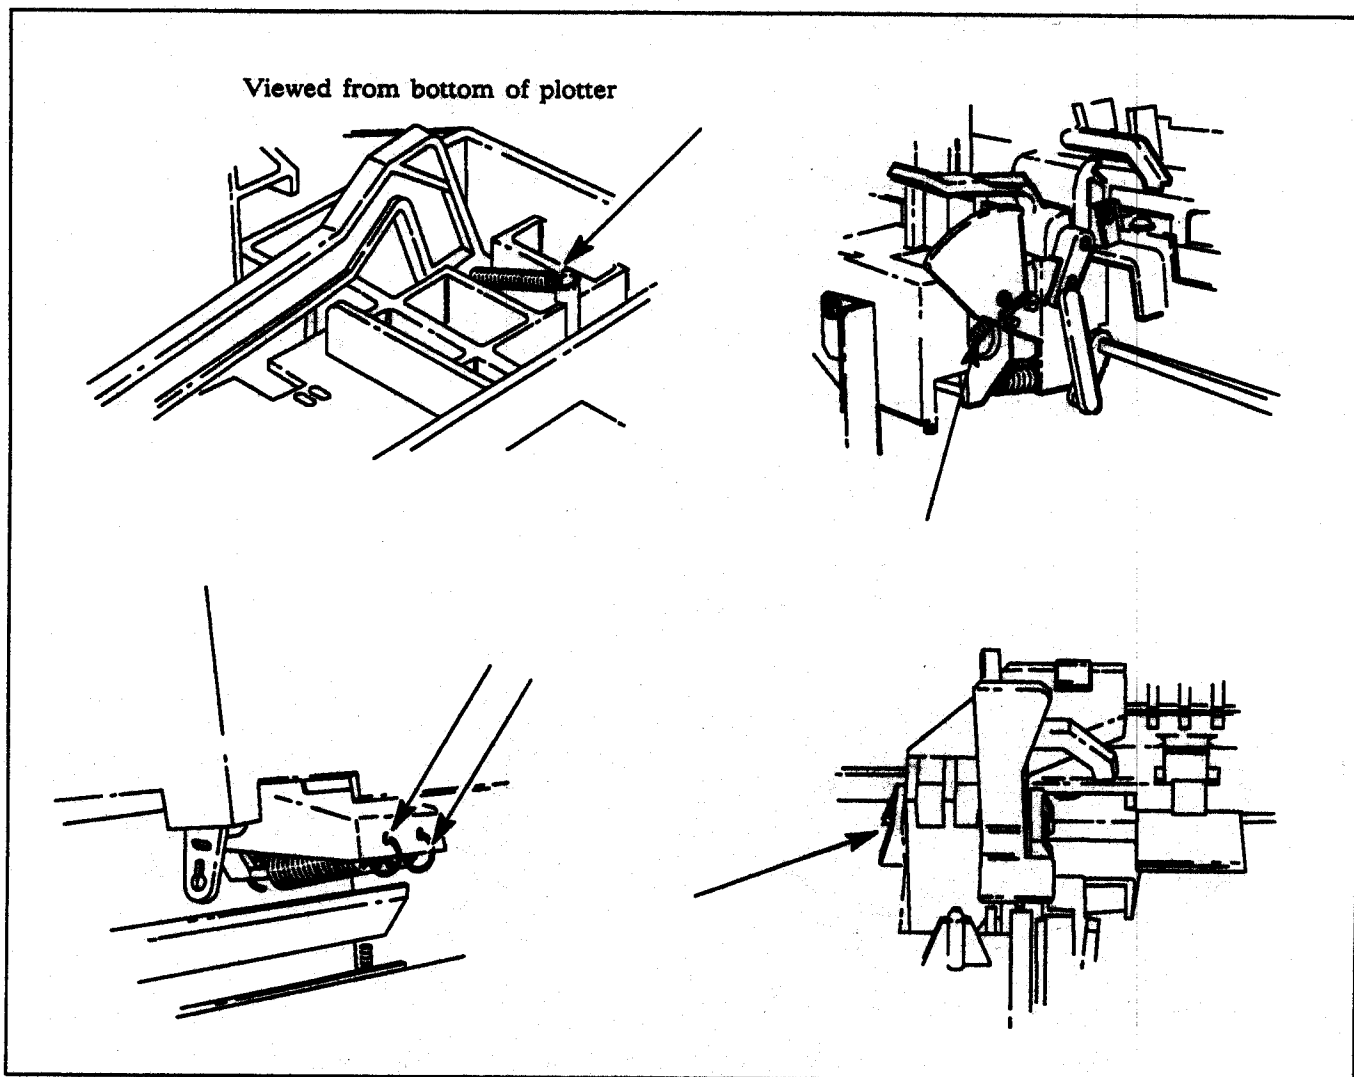

Figure 6-24. Fixed Pinch Wheel Arm Removal
- e. Remove the spring connected between the rear paper alignment arm and the underside of the left chassis. See Figure 6-24.
- f. Remove the spring from the front paper alignment arm. See Figure 6-24.
- g. Carefully remove the two pinch wheel arm tension springs. See Figure 6-24.
- h. Remove the retaining clip from the end of the pinch wheel arm shaft. See Figure 6-24.